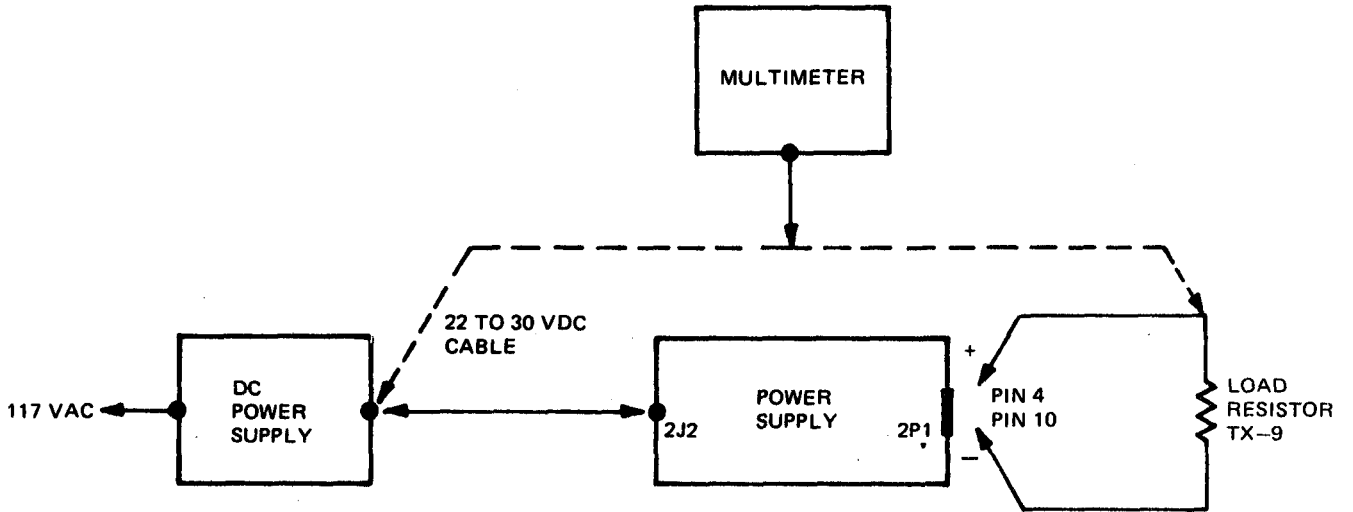

Figure 3-24. Power Supply DC Final Test, Equipment Setup
- (1) Connect equipment as shown in figure 3-24.
- (2) Perform test procedure listed in table 3-11.